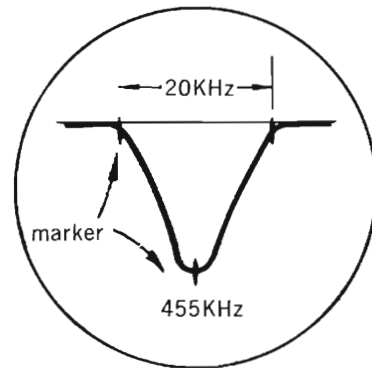

Fig. 13
- c) Turn SELECTOR Switch on the front panel of AA-8500 to AM position, VOLUME to minimum position, and set AM Sensitivity SELECTOR Switch (rear panel) to DX position. Then adjust the cores of T-903 (yellow), T-904 (white), and T-905 (black) to obtain the waveform as shown in Fig. 13.